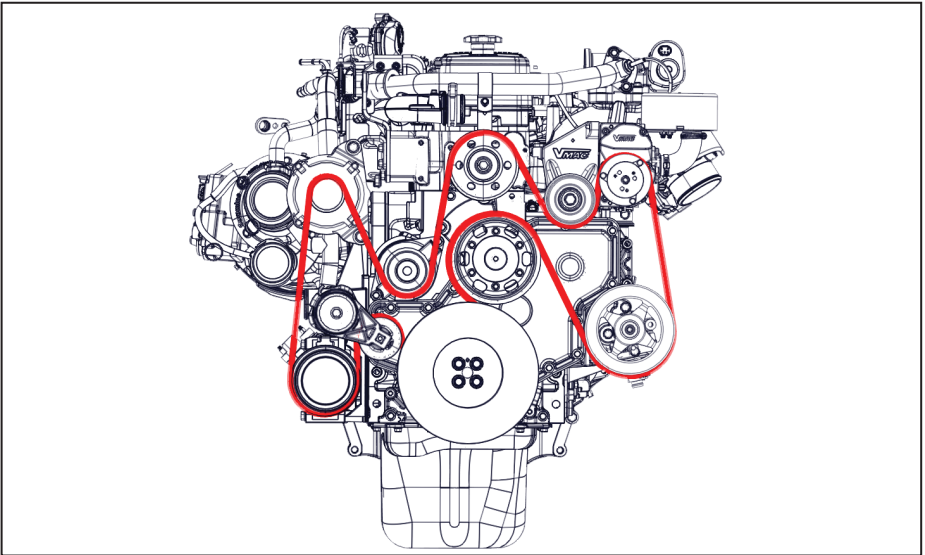

Figure 24 — Belt routing
- Install and tension the VMAC supplied FEAD belt (Figure 24).